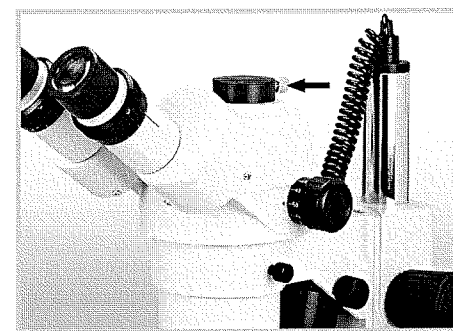

Fig.2
2. Loosen the knurled screw (Fig.2) situated on the side of the vertical port on the head sufficiently enough to remove the protective cover.
1. Loosen the knurled screw (Fig.2) on the side of the vertical port of the head sufficiently enough to remove the protective cover.